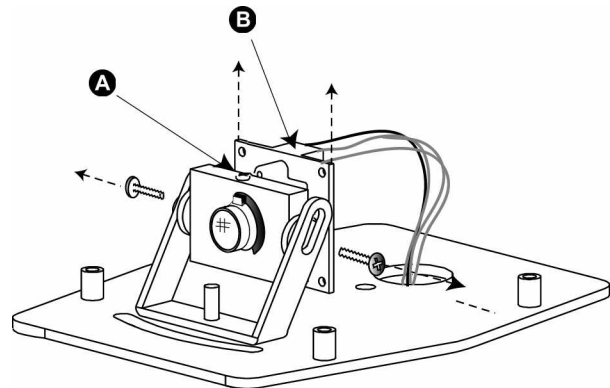

Figure 13. Camera orientation for curbside mounting.
- 1) Figure 13 shows orientation of a camera for mounting on the curbside of the bus, the backside of the bus, or in a forward-facing position on the dashboard. Note that the lens set screw (A) and the wiring harness (B) are positioned at the top of the camera.